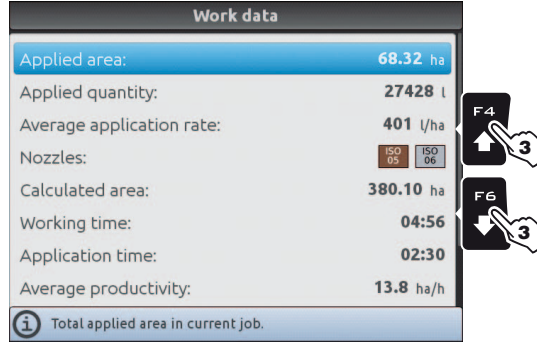
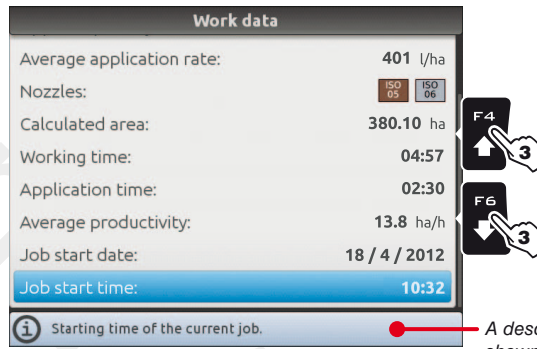

Fig. 321
Fig. 322
- 2 Press **F2** to view job data (Fig. 321 and Fig. 322).